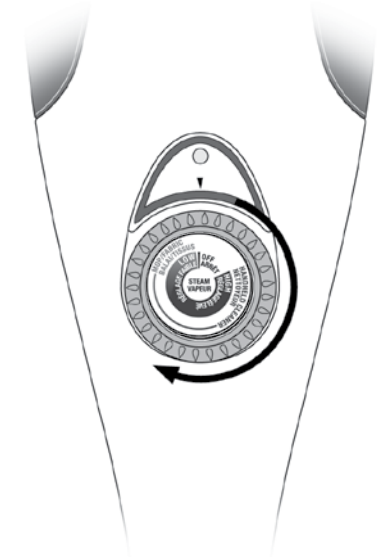

FIGURE 9
2. Turn Steam Control Dial clockwise from "OFF" position to desired steam setting (FIGURE 9). Power Indicator Light will immediately illuminate to indicate that unit is powered on and heating.